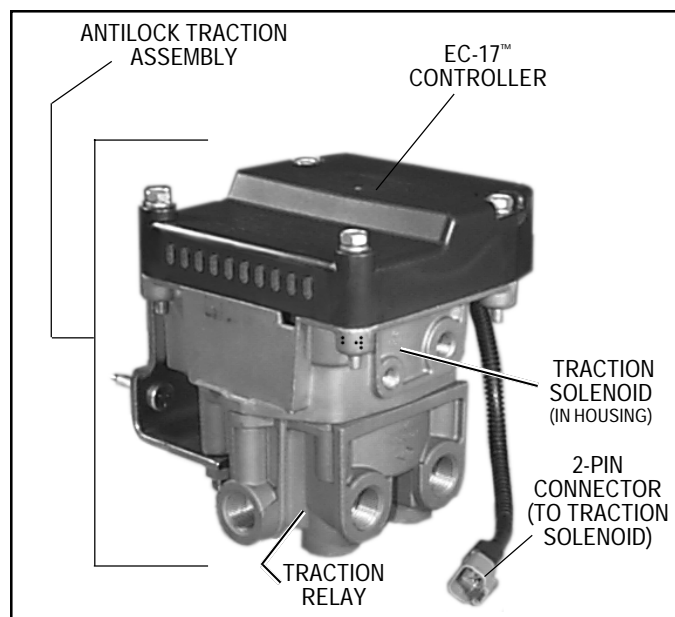

FIGURE 3 - EC-17™ CONTROLLER W/ANTILOCK TRACTION RELAY VALVE
Two electrical connectors, located in the controller housing opposite the diagnostic display (if so equipped), connect the EC-17™ controller to antilock and traction system components: one 30 pin and one 18 pin connector. The optional traction solenoid is linked to the 18 pin connector using a 2 pin Deutsch connector. The optional traction solenoid is located in the upper portion of the antilock traction relay valve assembly. (See Figure 3.)
function and replace the standard service relay on antilock equipped vehicles. In some instances the valves also provide specialized functions. When the EC-17™ controller is mounted on any of these valves, the result is a final assembly with its own model designation. Refer to the chart below and Figure 3.
- A connection to the **traction solenoid** (located in the upper portion of the antilock traction relay valve (see Figure 3) is provided via a 2 pin Deutsch connector.